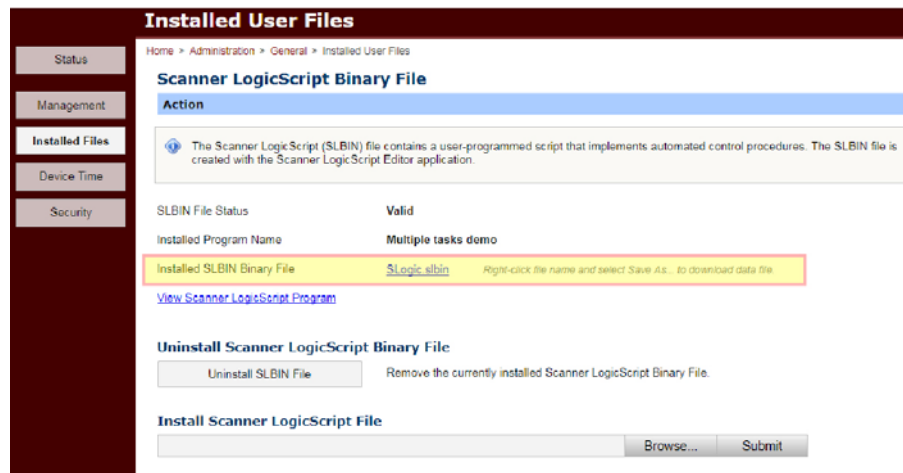

Figure 3.14—“Installed SLBIN Binary File” field
3. In the *Scanner Logic Script Binary File* section, locate the “Installed SLBIN Binary File” field (Figure 3.14).